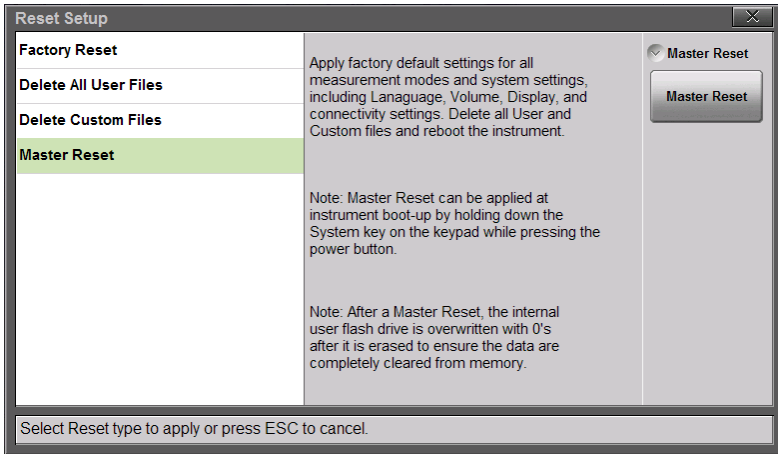

Figure 1-1. Master Reset
1. Press the **Preset (1)** button.
2. Press the Reset drop down submenu then press the Reset button. Select Master Reset and read the description on the screen (Figure 1-1).